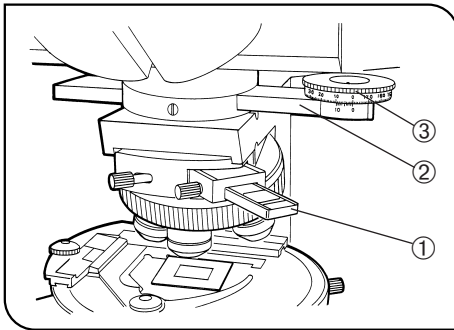

Fig. 19
When Using the Intermediate Attachment for AN360P (U-OPA) (Figs. 19 & 20)
1. Fully insert the alignment polarizer ①, provided with the U-OPA into the test plate adapter (U-TAD). Tighten its clamping knob. (Fig. 19)
3. Insert the rotatable analyzer (U-AN360P-2) ② into the analyzer slot on the intermediate attachment. Engage the analyzer, loosen the clamping screw and set the analyzer's rotation dial ③ to 0°. (Fig. 19)